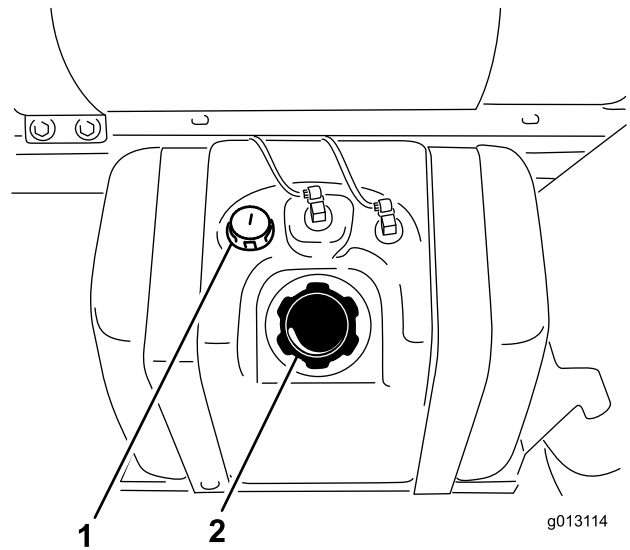

Figure 21
2. Clean the area around the fuel tank cap (Figure 21).